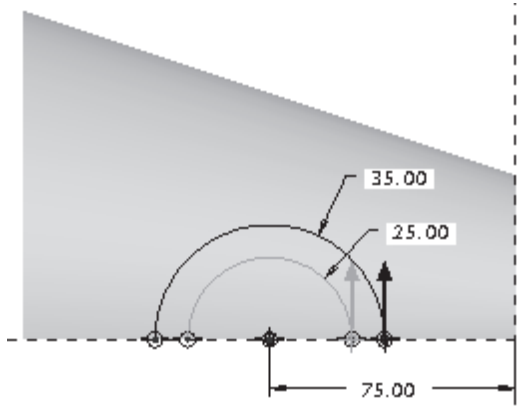

Figure 14-74 Sketch of the second feature
- Create the second feature, which is a blend feature, refer to Figures 14-74 and 14-75.
8. Sketch the first arc of radius 25, and then after toggling the sketch, draw the second arc, as shown in Figure 14-74.